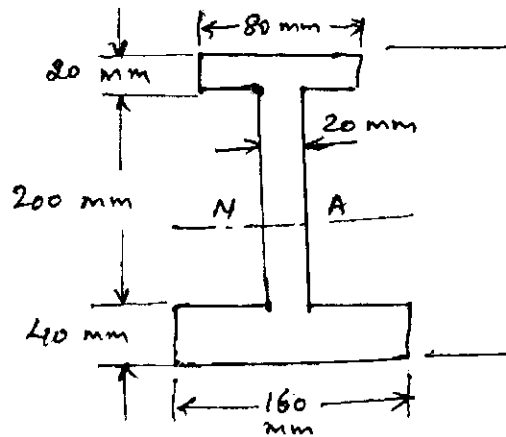

Fig.Q.6(a)
- 6 a. A cast iron beam is of I-section as shown in Fig.Q.6(a). The beam is simply supported on a span of 5m. If the tensile stress is not to exceed 20 N/mm^2 , find the safe uniformly distributed load, which the beam can carry. Find also the maximum compressive stress.